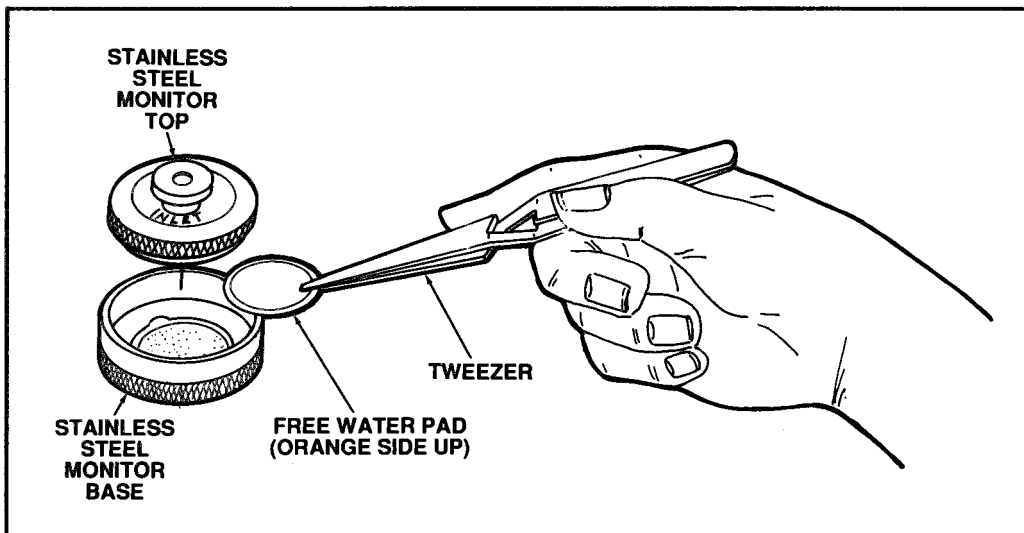

Figure 2.29 Inserting the Free Water Test Pad in the Monitor
- c. The pad has an orange, fluffy-textured top and a white backing. Insert the pad orange-side up towards the inlet of the monitor (the orange side should be facing upstream of the fuel flow). See Figure 2.29.